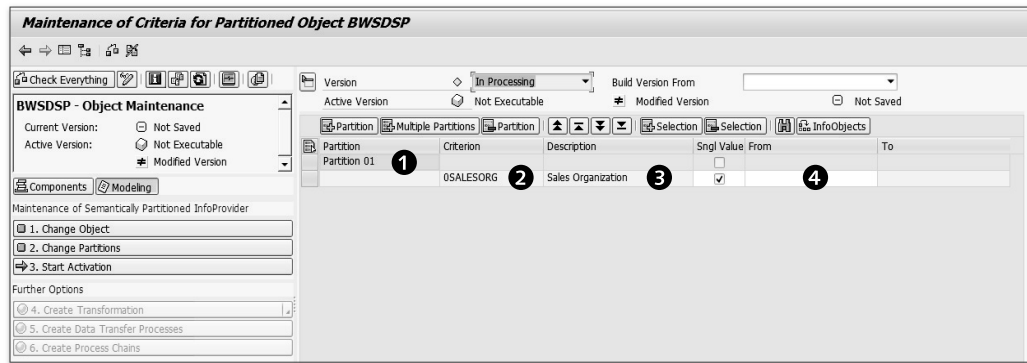

Figure 6.42 Creating Partitions
you to the MAINTENANCE OF CRITERIA FOR PARTITIONED OBJECT screen, as shown in Figure 6.42.
As shown in ❶ of Figure 6.42, the first partition is created by default and given the name PARTITION 01. Characteristic OSALESORG is included as a partitioning characteristic ❷. By default, SINGLE VALUE is selected ❸, and a blank value is assigned to this partition ❹.